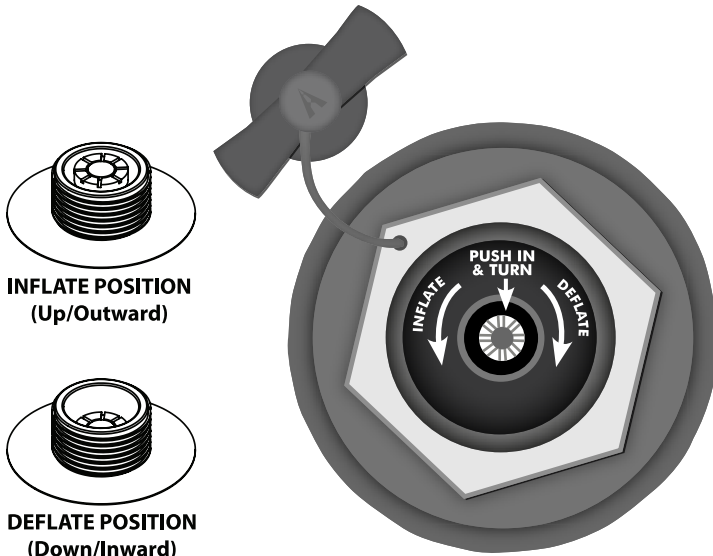

Figure 1. Inflate/Deflate Spring Valve
3. Locate chambers 4 and 5 right and left "side tubes". Check to be sure spring valve is in the inflate position (See Figure 1). Inflate chambers until firm (1.5 psi **ONLY**). **Do not over inflate.**
2. Push stems inward and rotate to deflate position (*See Figure 1*).